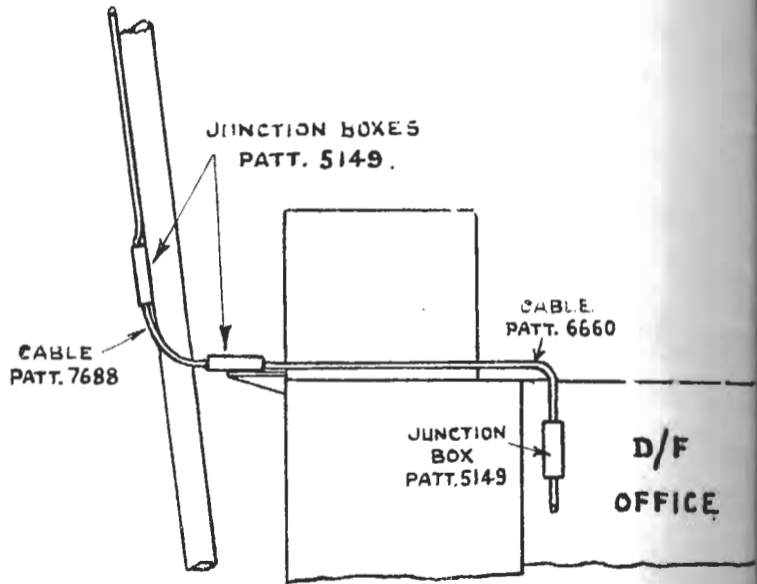

FIG. 1
3. ARRANGEMENT OF APPARATUS AT MASTHEAD. The frame coil is supported on a special polemast which is fitted at the masthead as shown in Fig. 1.
In ships where the mast is in one piece, the cable between the junction boxes at the top and bottom of the mast is continuous. (See Fig. 1).